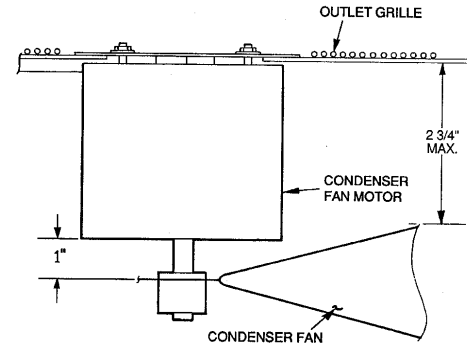

FIGURE 10
4. Adjust fan height as shown in **Figure 10**.
Refer to Cooling Service Analysis Tables and **Figure 10** – Page 11 for additional information.